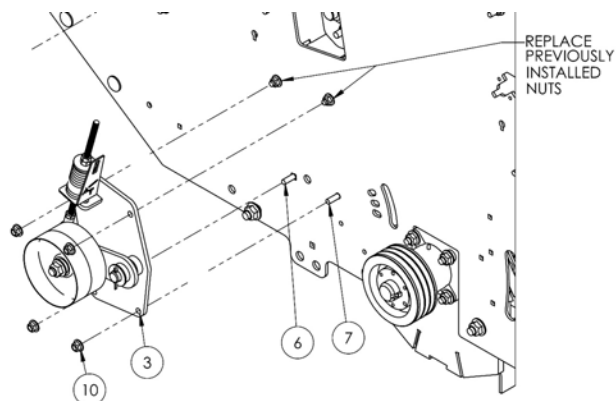

Figure 24: Install the Belt Tensioner
20. Install the belt tensioner onto the rear tub wall according to the chart and diagram, see *Figure 24*.